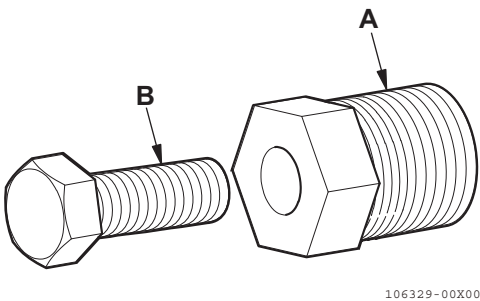

Figure 14
2. Install puller (Figure 14, (A)) in the impeller.
3. Turn the jack screw (**Figure 14, (B)**) clockwise to remove the impeller from the pump body.